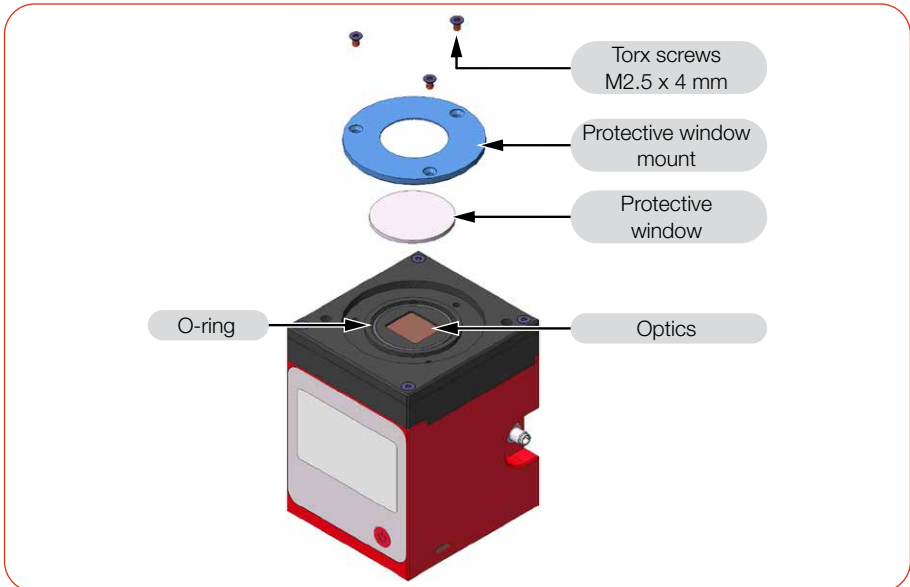

Fig. 12.1: Exchanging the protective window
5. Place the device as shown in Fig. 12.1 on page 61 and carefully remove the protective window mount upwards.
9. Place the protective window mount according to Fig. 12.1 on page 61.